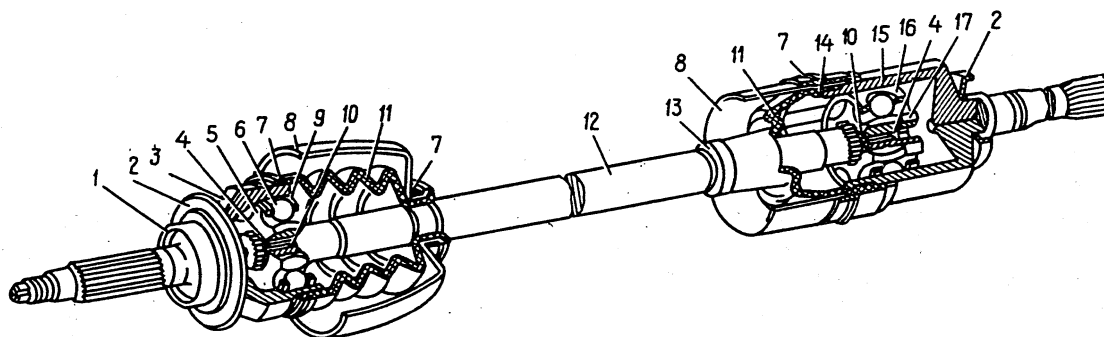

Fig.3-78. Front Wheel Drive:
The front wheels receive the torque moment from the front driving axle via two joints interconnected by shaft 12 (Fig. 3-78). The outer joint (constant velocity joint) consists of housing 3, holder 5, cage 9 with balls 6, lockring 4 and thrust ring 10. Holder 5 is connected with housing 3 by the balls which enter the hollows of holder 5 arranged radially, and into the housing slots. The holder is slipped on the splines of shaft 12 all the way to bear against thrust ring 10 and is secured by lockring 4. When compressed, this ring passes freely through the splined hole of holder 5 which contributes to easy joining and disconnection of the joint and shaft 12.
- shift wire clamp 7 (Fig. 3-78) from rubber boot 11;
- before striking shaft 12 (Fig. 3-78) for connecting it with inner holder 5, install lockring 4 strictly on the centre then strike smartly the end of the shaft down; the compressed lockring will slide through the splined hole of the holder;